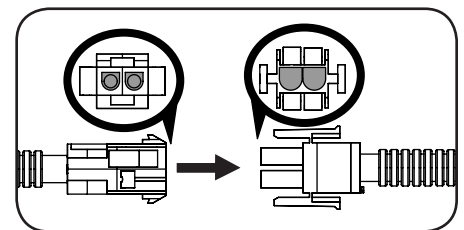

Figure 2-3
1. Connect the headlight harness/12V wiring harness to the main harness. Make sure the D-shape connectors align properly. See Figure 2-3.